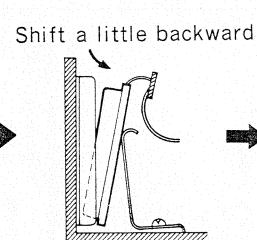
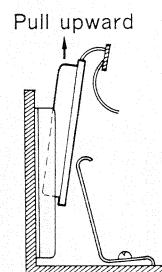

Fig. 4
Fig. 5
6. Next, shift it a little backward as in Fig. 4, and then pull it upward as in Fig. 5. Thus, the frequency indication plate can be removed.